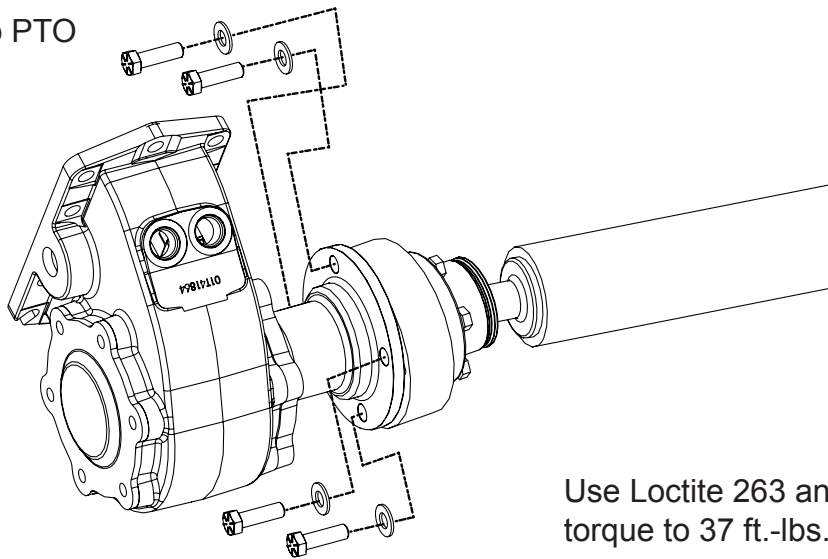

Figure 10
2. Starting on the PTO connection side, apply Loctite 263 to the new four (4) bolts (P/N 1140169).
3. Use the bolts and new four (4) lock washers (P/N 0120302) to install the CV shaft to the PTO (Figure 10).
4. Use a torque wrench to torque each bolt to 37 ft.-lbs. (Figure 10).